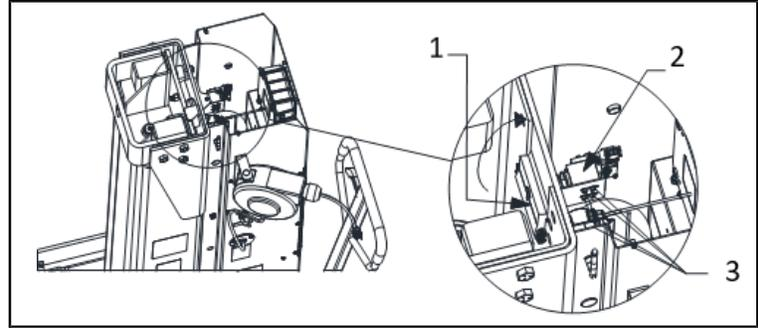

Fig. 22: Adjusting down stop catch pawl position
3. Loosen the four screws shown in Fig. 22 holding the down stop solenoid in position so the solenoid can slide forward and backward.
4. Rotate the down stop catch pawl backward toward the inside of the column (as shown by the arrow in Fig. 22) until it touches the inside of the column. Hold the pawl in this position.